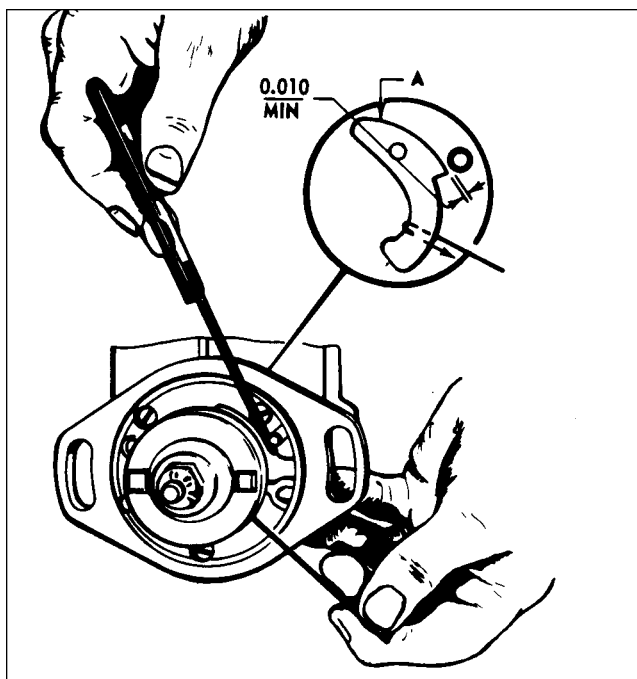

Figure 8A-12. Checking Flyweight Clearance of Impulse Coupling
4. Install the 11-8693 Timing Plate Assembly and the 11-8149 Pointer Assembly of the 11-8150 Scintilla Timing Kit to breaker compartment of magneto. (Refer to Figure 8A-10.) Align pointer assembly with the 0 mark on timing plate. Loosen adjusting knob of 11-8465 Rotor Holding Tool and turn rotating magnet in normal direction of rotation until pointer indexes with the respective E gap mark ($15^\circ \pm 2^\circ$). Tighten adjusting knob of 11-8465 Tool and remove the 11-8149 Pointer Assembly from magneto. Using a timing light, adjust contact points to just open. This adjustment shall be made by rotating cam, in opposite direction of rotation until contacts just open. While holding cam in this exact position, push cam on magnet shaft as far as possible with the fingers. Extreme care must be exercised in this operation. If cam adjustment is changed in the slightest degree, the timing of the magneto will be thrown off. Do not drive cam on shaft with a mallet or other instrument. Tighten the securing screw thereby drawing the cam down, evenly and tightly. Torque screw to 16-20 inch-pounds. Loosen the 11-8465 Rotor Holding Tool adjusting knob and return rotating magnet to neutral position. Reinstall the 11-8149 Pointer Assembly over 0 mark on timing plate. Rotate magnet shaft in normal direction of rotation and check for opening of main contact points at E gap setting ($15^\circ \pm 2^\circ$).